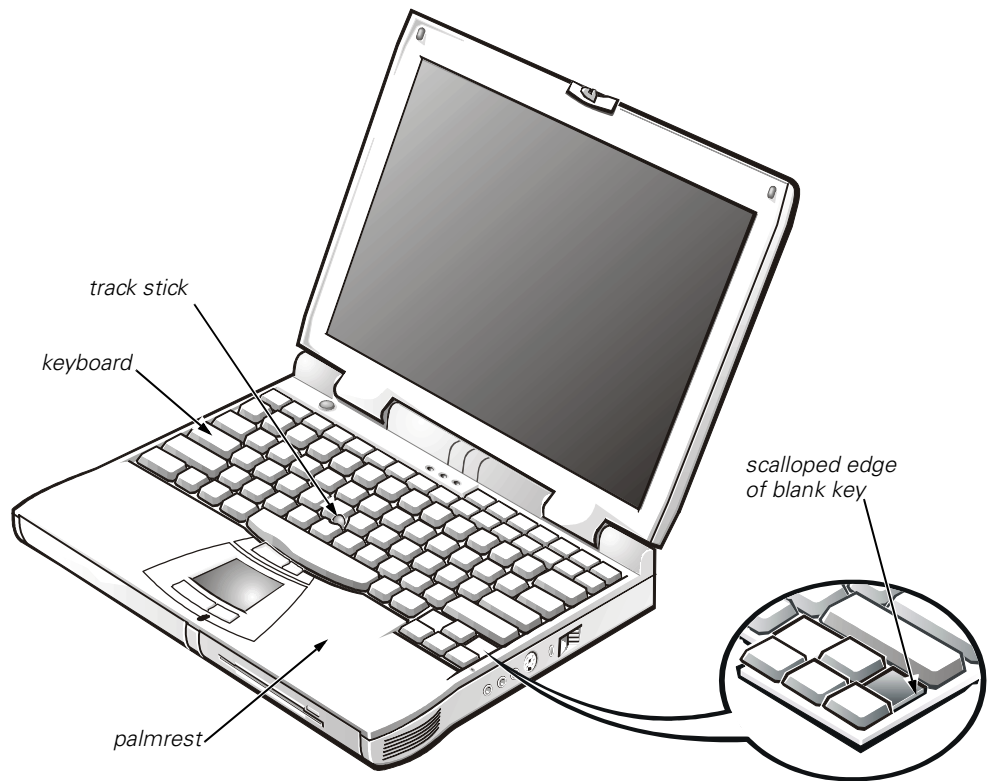

Figure 10. Keyboard Assembly Removal
4. Release the keyboard from the palmrest assembly by inserting a small flat-blade screwdriver under the edge of the blank key (see Figure 10), and lift the right edge of the keyboard.